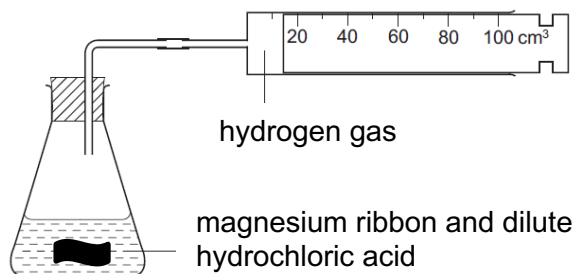

Fig. 8.1
- B8** A student investigated the rate of reaction when dilute acid reacts with excess solid magnesium using the apparatus as shown in Fig. 8.1.
- (a) Name the salt formed in Fig. 8.1.
Suggest one modification to the apparatus setup in Fig. 8.1 to correct the error.